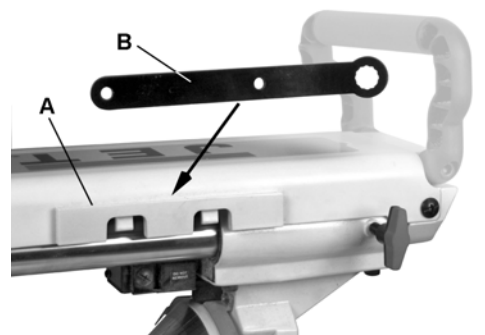

Figure 5
For convenience, *storage clip* (A, Fig. 5) is located on the right side of the sliding carriage for storing the *blade wrench* (B).